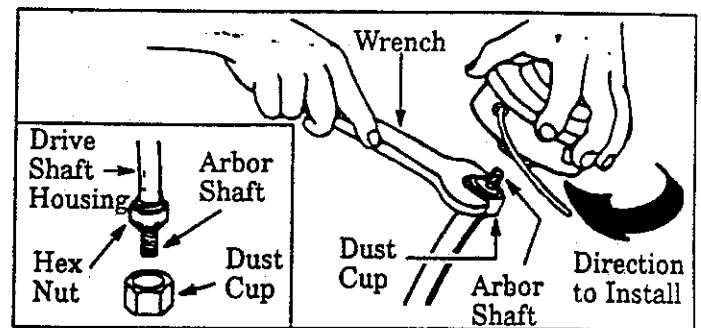

Figure 4
- Place the Dust Cup on the Drive Shaft Housing over the hex nut that is assembled on the arbor Shaft. Figure 4.
- Thread the Trimmer Head onto the Arbor Shaft against Dust Cup and tighten firmly. Figure 4.